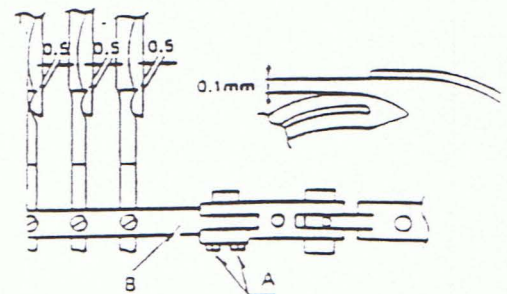

Fig.11
c) Location of spreader looper to looper (Fig. 11)